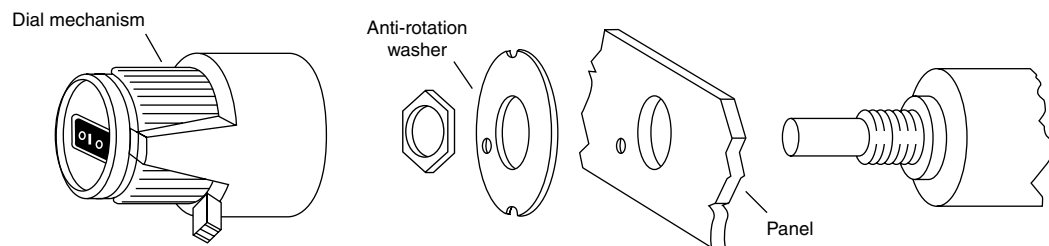

Fig. 2
2. Mount potentiometer in panel hole (Fig. 2) such that the end of the potentiometer spindle is between 12 and 20 mm from the panel. Under these conditions the potentiometer mounting bush should not project more that 4 mm from the front of the panel.